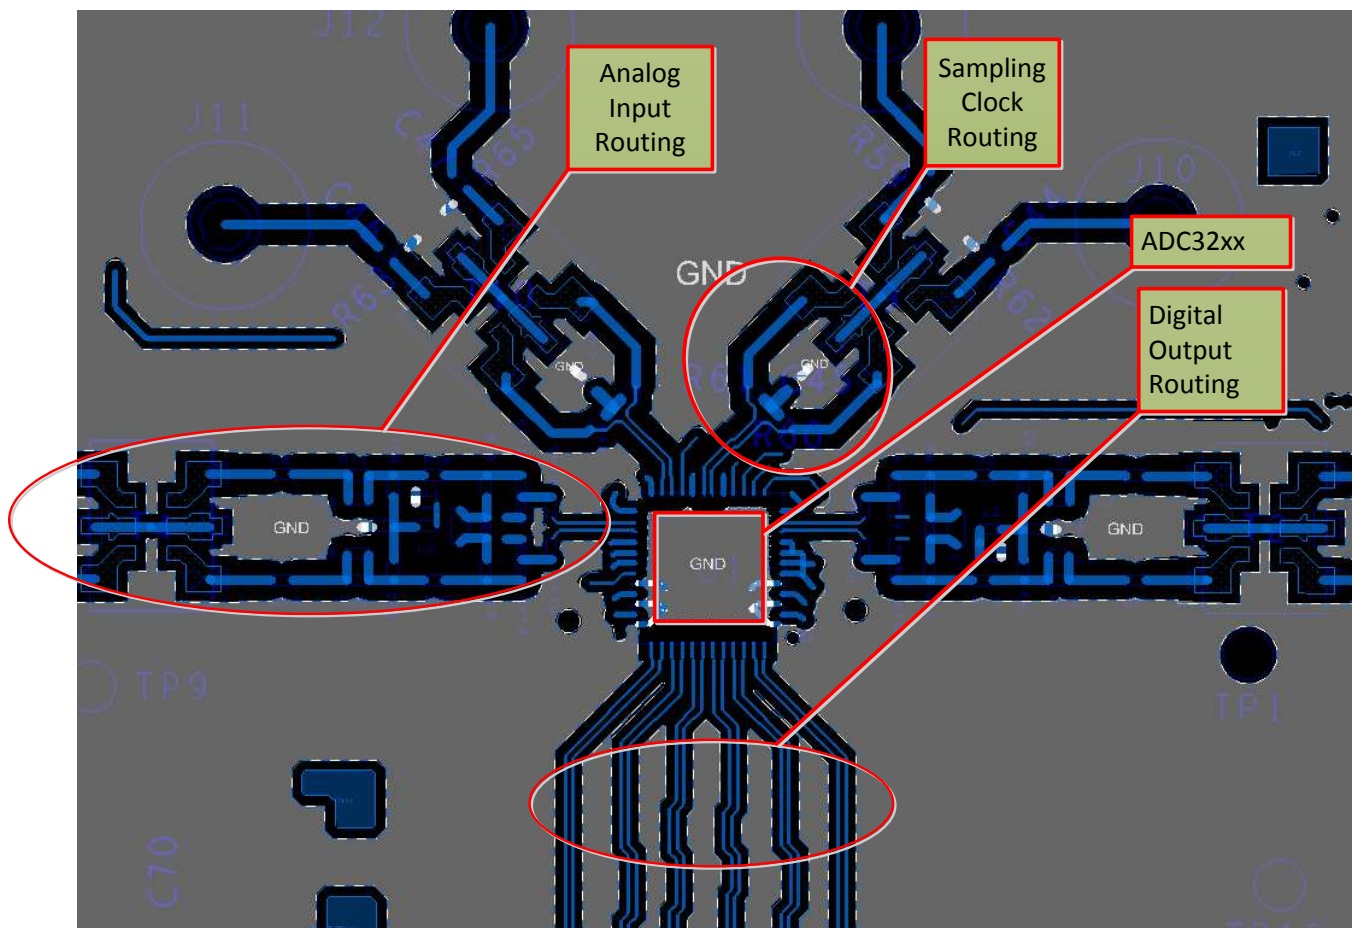

Figure 183. Typical Layout of the ADC324x Board
The ADC324x EVM layout can be used as a reference layout to obtain the best performance. A layout diagram of the EVM top layer is provided in Figure 183. Some important points to remember during laying out the board are:
1. Analog inputs are located on opposite sides of the device pin out to ensure minimum crosstalk on the package level. To minimize crosstalk onboard, the analog inputs must exit the pin out in opposite directions, as shown in the reference layout of Figure 183 as much as possible.
2. In the device pin out, the sampling clock is located on a side perpendicular to the analog inputs in order to minimize coupling between them. This configuration is also maintained on the reference layout of Figure 183 as much as possible.